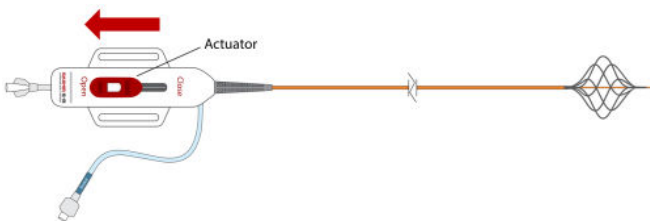

Figure 6. Move actuator in the proximal direction to expand the infusion basket to the desired diameter (diagram not to scale).
5. Verify that the diameter of the infusion basket can be adjusted using the red actuator on the handle. Moving the actuator in the proximal direction (towards the operator) increases the infusion basket diameter (Figure 6, Page 7). Moving the actuator in the distal direction (away from the operator), while simultaneously pressing the actuator release button, reduces the infusion basket diameter (Figure 7, Page 7).
- Under fluoroscopic visualization, use the red actuator on the handle to expand the infusion basket to a diameter less than that of the vessel in which it is situated, to minimize the chance of occluding any infusion holes. Moving the actuator in the proximal direction (towards the operator) expands the infusion basket (Figure 6). To collapse the basket, move the actuator in the distal direction (away from the operator) while simultaneously pressing the white actuator release button (Figure 7).